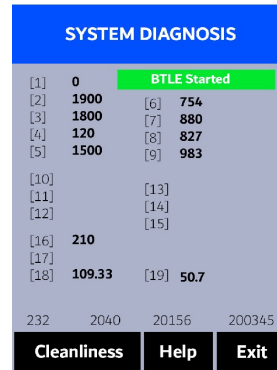

Figure 32.
Press **Diagnosis** (<) to launch the **SYSTEM DIAGNOSIS** screen where raw measurement data are displayed (Figure 32). The information has no use for normal operation, but instead is used for device troubleshooting. Provide an image of both the **DEVICE INFORMATION** screen and the **SYSTEM DIAGNOSIS** screen when you contact Pyxis (service@pyxis-lab.com) for troubleshooting your device or call +1 (866) 203-8397.
4. Allow 5–10 seconds for the message in the top-right corner of the display change from **Starting BTLE...** to **BTLE Started** (Figure 32).